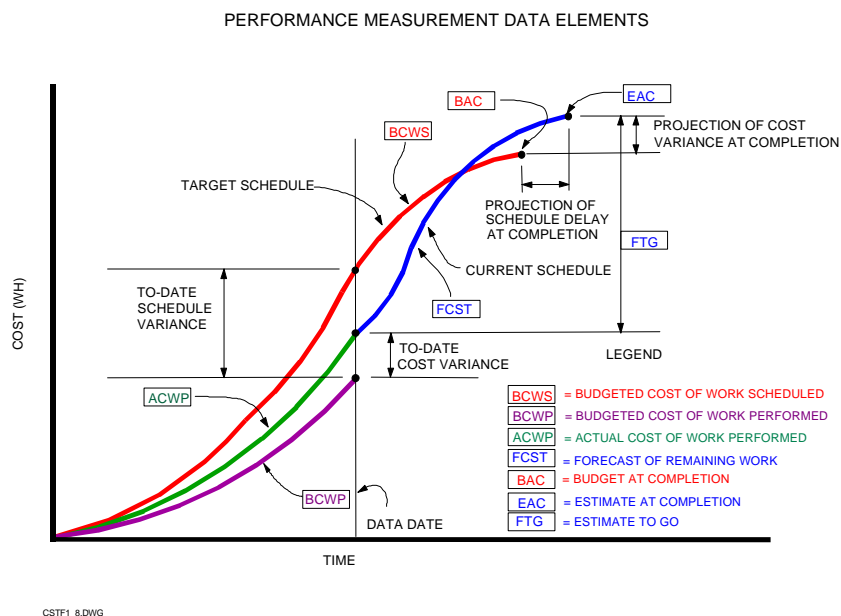

FIGURE 2 - EARNED VALUE ELEMENTS
In order to understand Earned Value thoroughly, we must become familiar with all the elements of the Earned Value method. Figure 2 provides an overview of these elements. While many people shy away from the acronyms used to label the elements, they quite accurately describe the elements. The project management practitioner should be familiar with the “alphabet soup.” In this paper, we will use both the formal acronyms and more familiar terms to describe the elements.
These are the three major components of Earned Value. At any point in time, we have the planned work, the actual work and the cost of the actual work. This allows us to make the full analysis of our project progress and performance. Some of the other, related terms shown in Figure 2, include the Budget At Completion (BAC), the Estimate At Completion (EAC), the Schedule Variance (SV) and the Cost Variance (CV). We will learn more about these in the discussion on how to apply Earned Value.
Step 8: Calculate, Print And Plot The next step in the periodic process is to calculate the Earned Value and to print reports and plot charts for analysis. The Earned Value is simply the per cent complete of an activity times its budget. This provides the key value in the Earned Value process. Other calculations include the schedule and cost variances, performance indices, estimates at completion and per cent complete of the upper elements of the WBS. Referring to Figure 2 will aid in understanding the following calculation discussion.